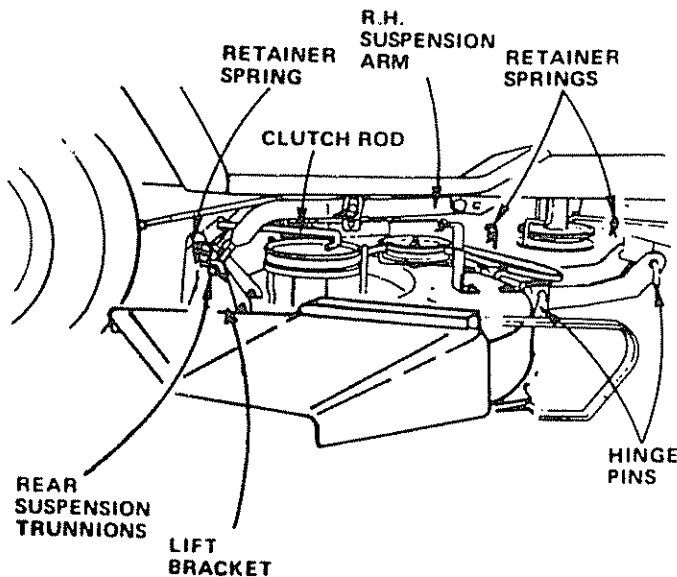
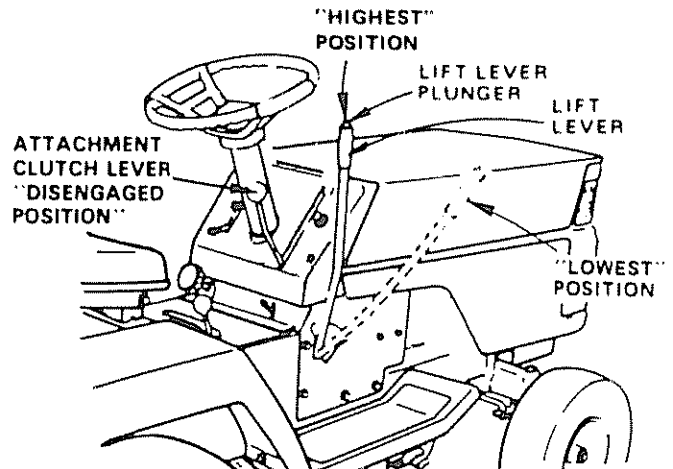
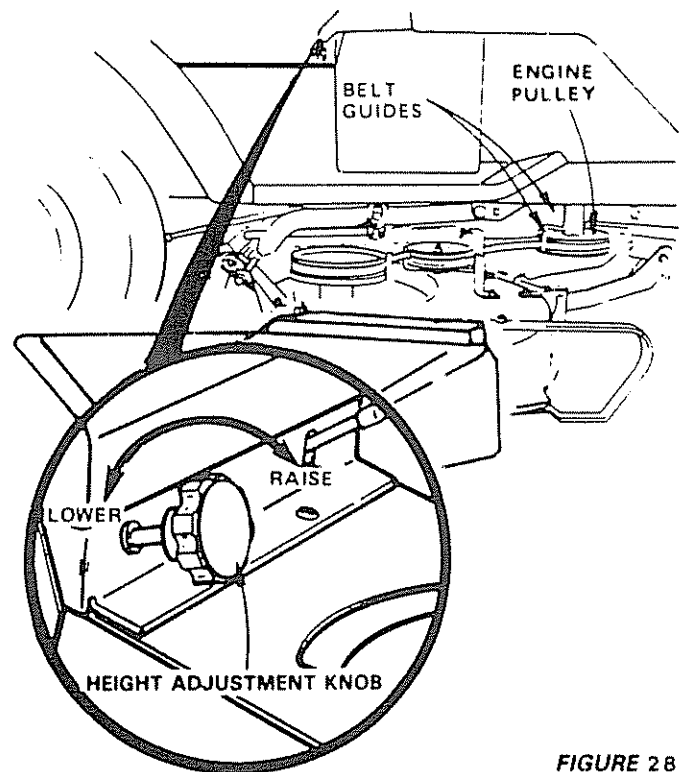

FIGURE 26
FIGURE 27
FIGURE 28
- Remove retainer spring from clutch rod; pull clutch rod out of clutch bracket (Fig. 26).
- Pull retainer springs out of rear suspension trunnions. Remove rear suspension trunnions from lift brackets (Fig. 26).
- Pull retainer spring out of front hinge pin. Remove front hinge pin (Fig.26).
NOTE: IF AN ATTACHMENT OTHER THAN THE MOWER DECK IS TO BE MOUNTED ON THE TRACTOR, THE L.H. AND R.H. SUSPENSION ARMS (FIG. 26) SHOULD BE REMOVED FROM TRACTOR.
Your Mower installs without the use of tools. Raise Attachment Lift Lever (Fig. 27) to its highest position. Turn height adjustment knob to lowest position (Fig. 28).
- Move Attachment lift lever (Fig. 27) forward to lower suspension arms. Slide trunnions through lift bracket holes and secure with retainer springs (Fig. 26).
- Roll belt over engine pulley. Make sure belt is inside belt guides (Fig. 28). See belt drive schematic decal on mower housing.
- Use Attachment lift lever (Fig. 27) to raise mower.
- Place attachment clutch lever in "Disengaged" position (Fig. 27).
- Turn height adjustment knob to lowest position. Move Attachment lift lever (Fig. 27) forward to lower mower to its lowest position.
- Roll belt off engine pulley (Fig. 28)